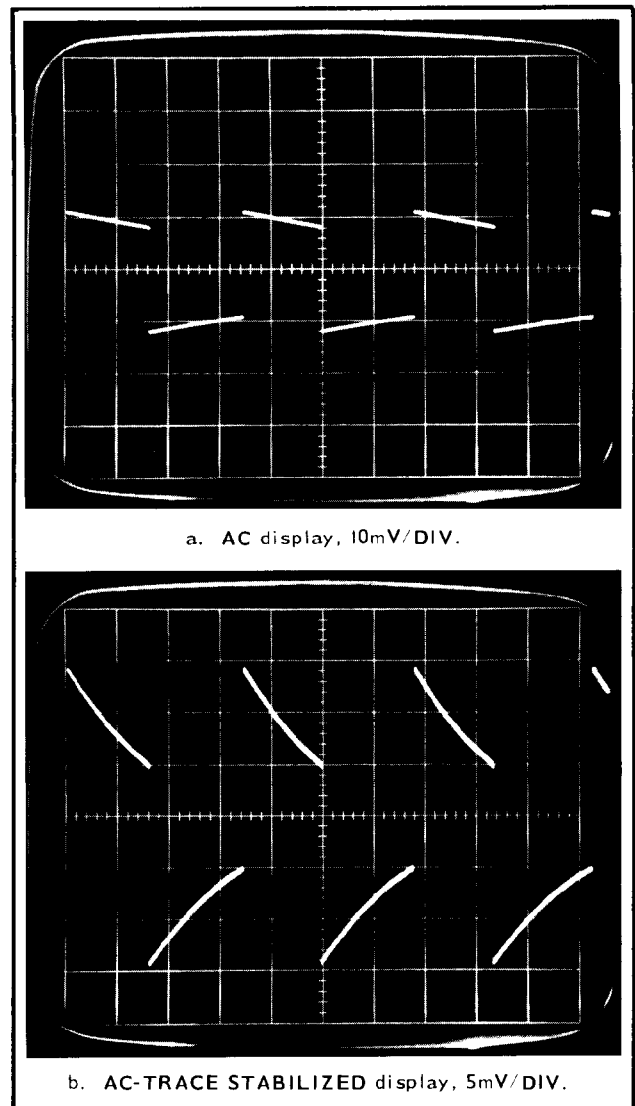

Fig. 2-2. Normal display difference in ac coupled 60-cycle calibrator signal.
12. Set the MANUAL VOLTS/DIV switch to 5 mV. The display rise and fall will double in amplitude, but the RC decay during the flat portion of the calibrator signal will fall farther than at 10 mV/DIV. See Fig. 2-2.